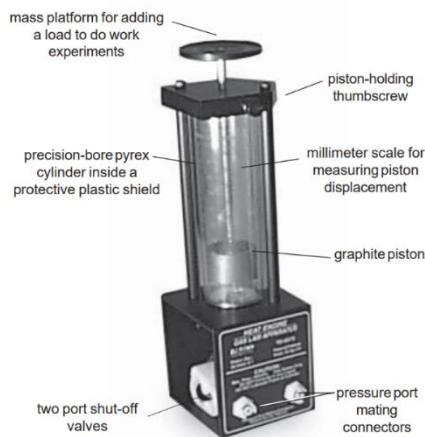

Fig. 5: Heat Engine Apparatus. It's designed with two pressure ports with quick-connect fittings for connecting to the air chamber tubing.
- (c) Position the piston 25~30 mL from the bottom of the cylinder, attach the tube from the can to one port on the Heat Engine and close the shut-off valve on the tubing from the unused port. (See Fig. 5)